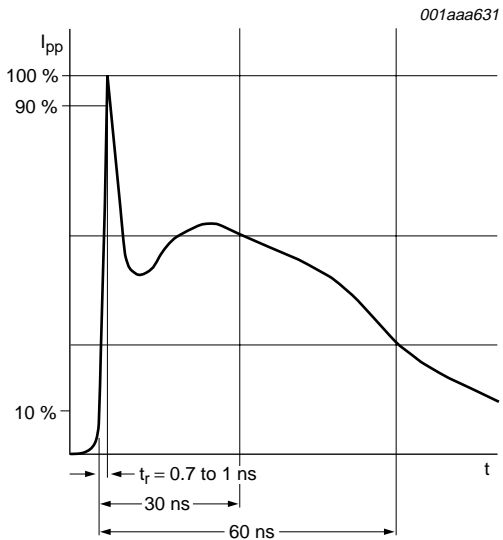

Fig 2. ElectroStatic Discharge (ESD) pulse waveform according to IEC 61000-4-2
- [1] Device stressed with ten non-repetitive ElectroStatic Discharge (ESD) pulses; see Figure 2.
IEC 61000-4-2, level 4 (ESD); see Figure 2	> 15 kV (air); > 8 kV (contact)